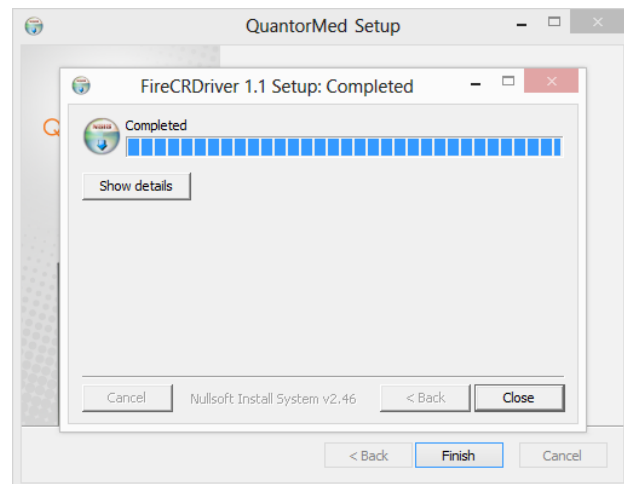

Figure 2.9 Installation of **FireCR** USB Driver
- Installation status of the **FireCR** USB driver will be displayed as Shown in Figure 2.9